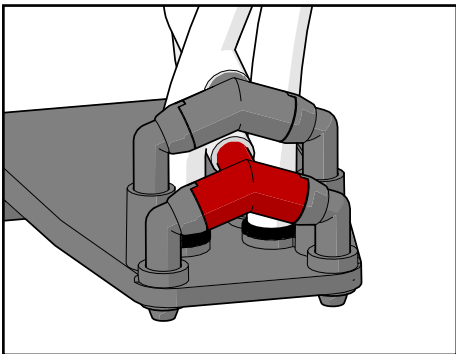

Figure 45.
12. Reconnect the hoses to the spout and spout arm. Make sure the brewer hose is connected to the red pipe (see Figure 45).